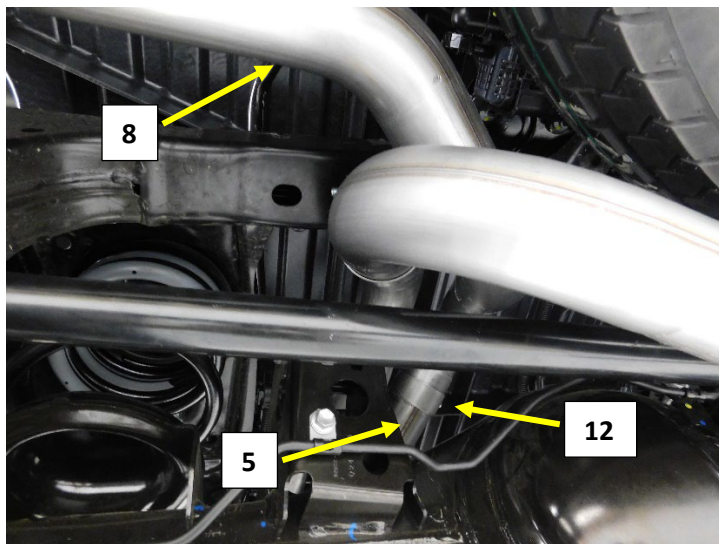

Figure.13
10. Install a 2.5" band clamp (12) on to the left tail pipe (8). Position the clamp with the bolt at the top of the pipe and the nut facing the right frame rail when the tube is installed on to the right muffler outlet pipe (5). **Fig.13**
11. Install the left tail pipe (8) expanded end with clamp installed over the axle and onto the right muffler outlet pipe (5) just over the differential. **Fig.13**